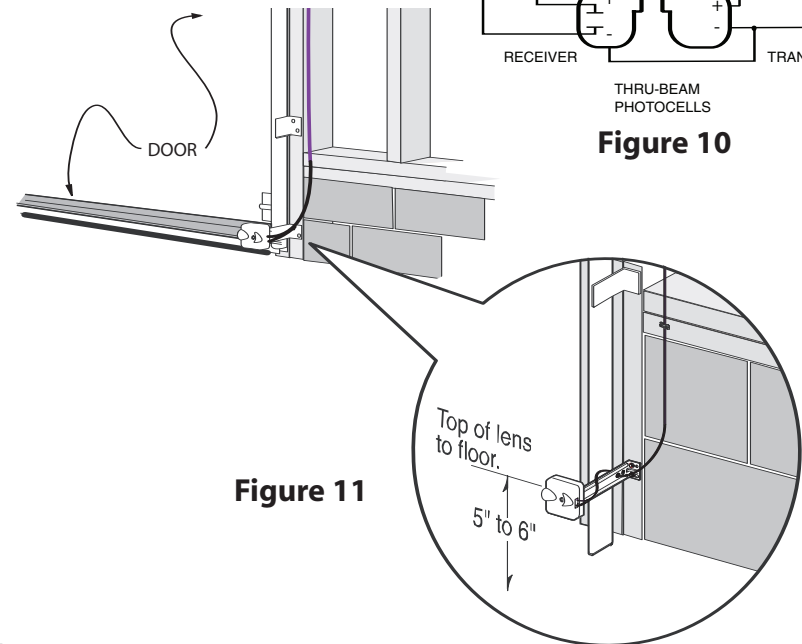

Figure 11
- Determine location for mounting. They do not need to be directly adjacent to the door but must be somewhere along the wall where there will be an unobstructed line between them. **Fig 11.**